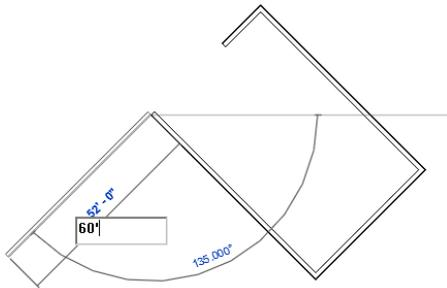

Figure 3-47 Sketching the fifth inclined wall segment
8. Similarly, create the fifth inclined wall segment of 60' (18288 mm) length, as shown in Figure 3-47.